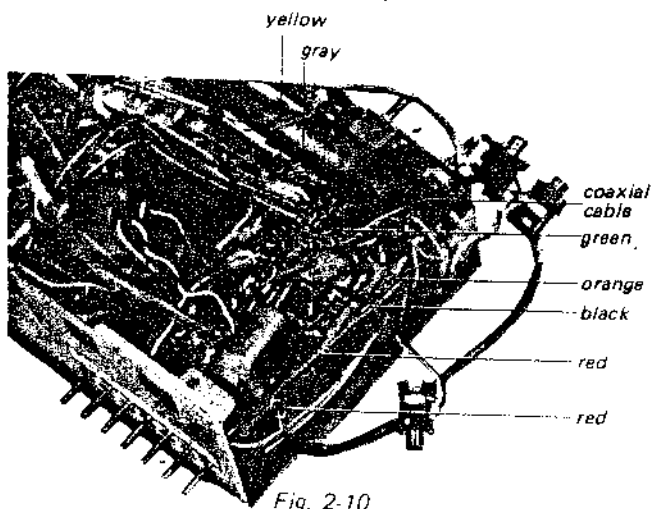

Fig. 2-10
13. Unsolder the seven pvc lead wires and one coaxial cable shown in Fig. 2-10.